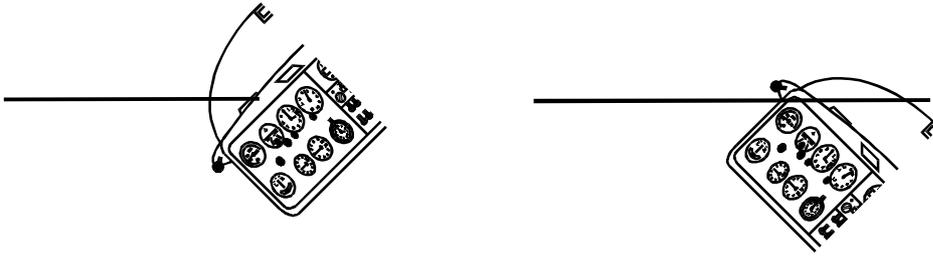

Fig 20. Turning attitude Left and Right at 45° angle of bank.
6. Once you have been taught the 45° turn you will be given the opportunity to practice it in both directions. It is important to remember that the attitude will look different for each direction but that the position of the horizon in relation to the speaker box will be the same. See Fig 20.